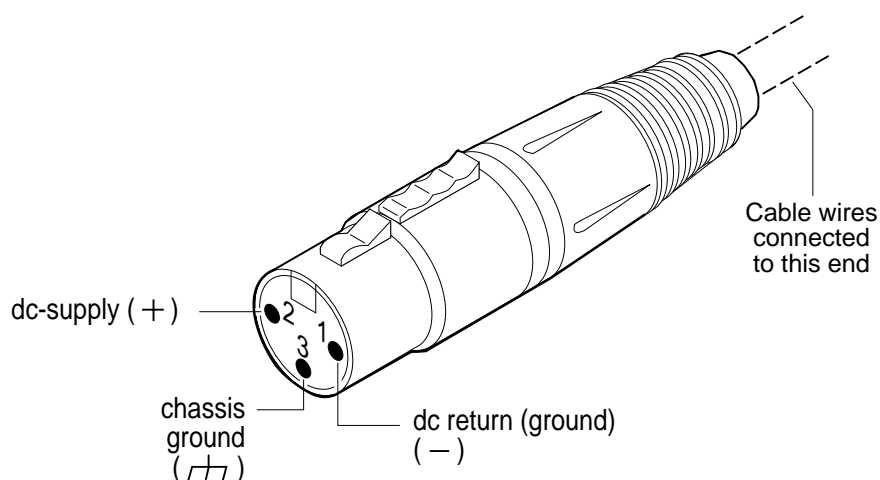

Figure 4-1E. Three-Pin XLR Plug Pinouts (Front View)
- 13 Note that you will have to assemble your own dc power cable using 18 AWG connecting wires and a three-pin Agilent E9640A XLR (female) connector plug, shown in Figure 4-1E.